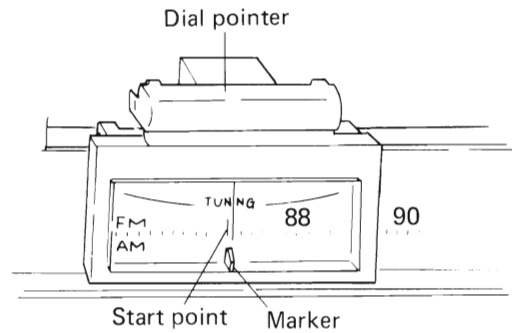

Fig. 7-1 Start point
8. Next rotate the dial shaft in the counter clockwise direction (i.e. tuning capacitor rotor blades fully intermeshed). Align the dial pointer with the tuning dial "start point" (see Fig. 7-1), and then attach it to the cord.